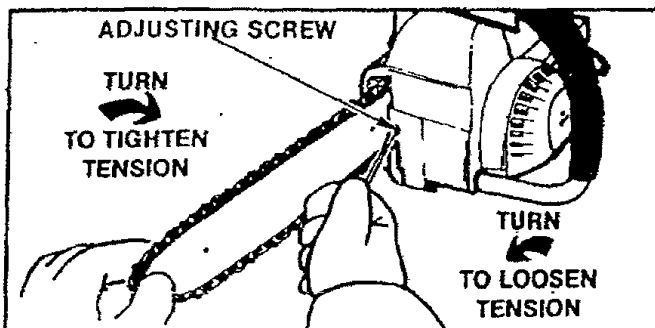

Figure 11
1. Hold the tip of the Guide Bar up and turn the Adjusting Screw clockwise just until the chain does not sag beneath the Guide Bar. Figure 11.